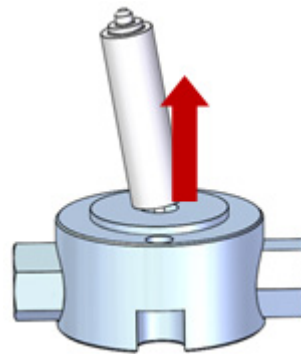

Figure 6-12 Removing the seals
11. Insert the flanged end of the seal insertion/removal tool into the seal cavity on the pump head. Tilt it slightly so that the flange is under the seal, and pull out the seal (Figure 6-12).